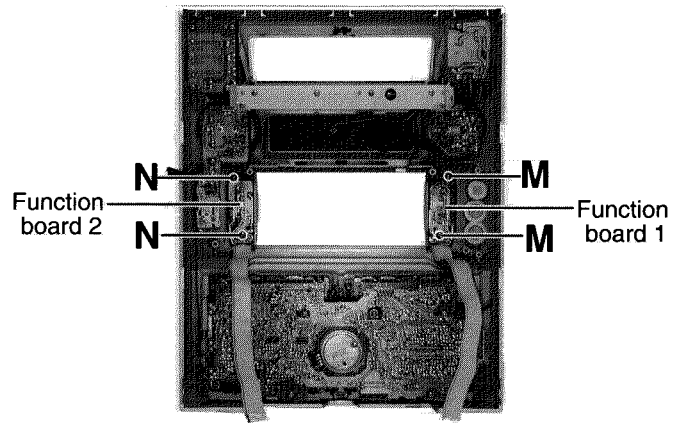

Fig.17
■ **Removing the boards in the front panel assembly (See Fig.17 to 19)**
— **Function board1 (See Fig.17)**—
— **Function board2 (See Fig.17)**—